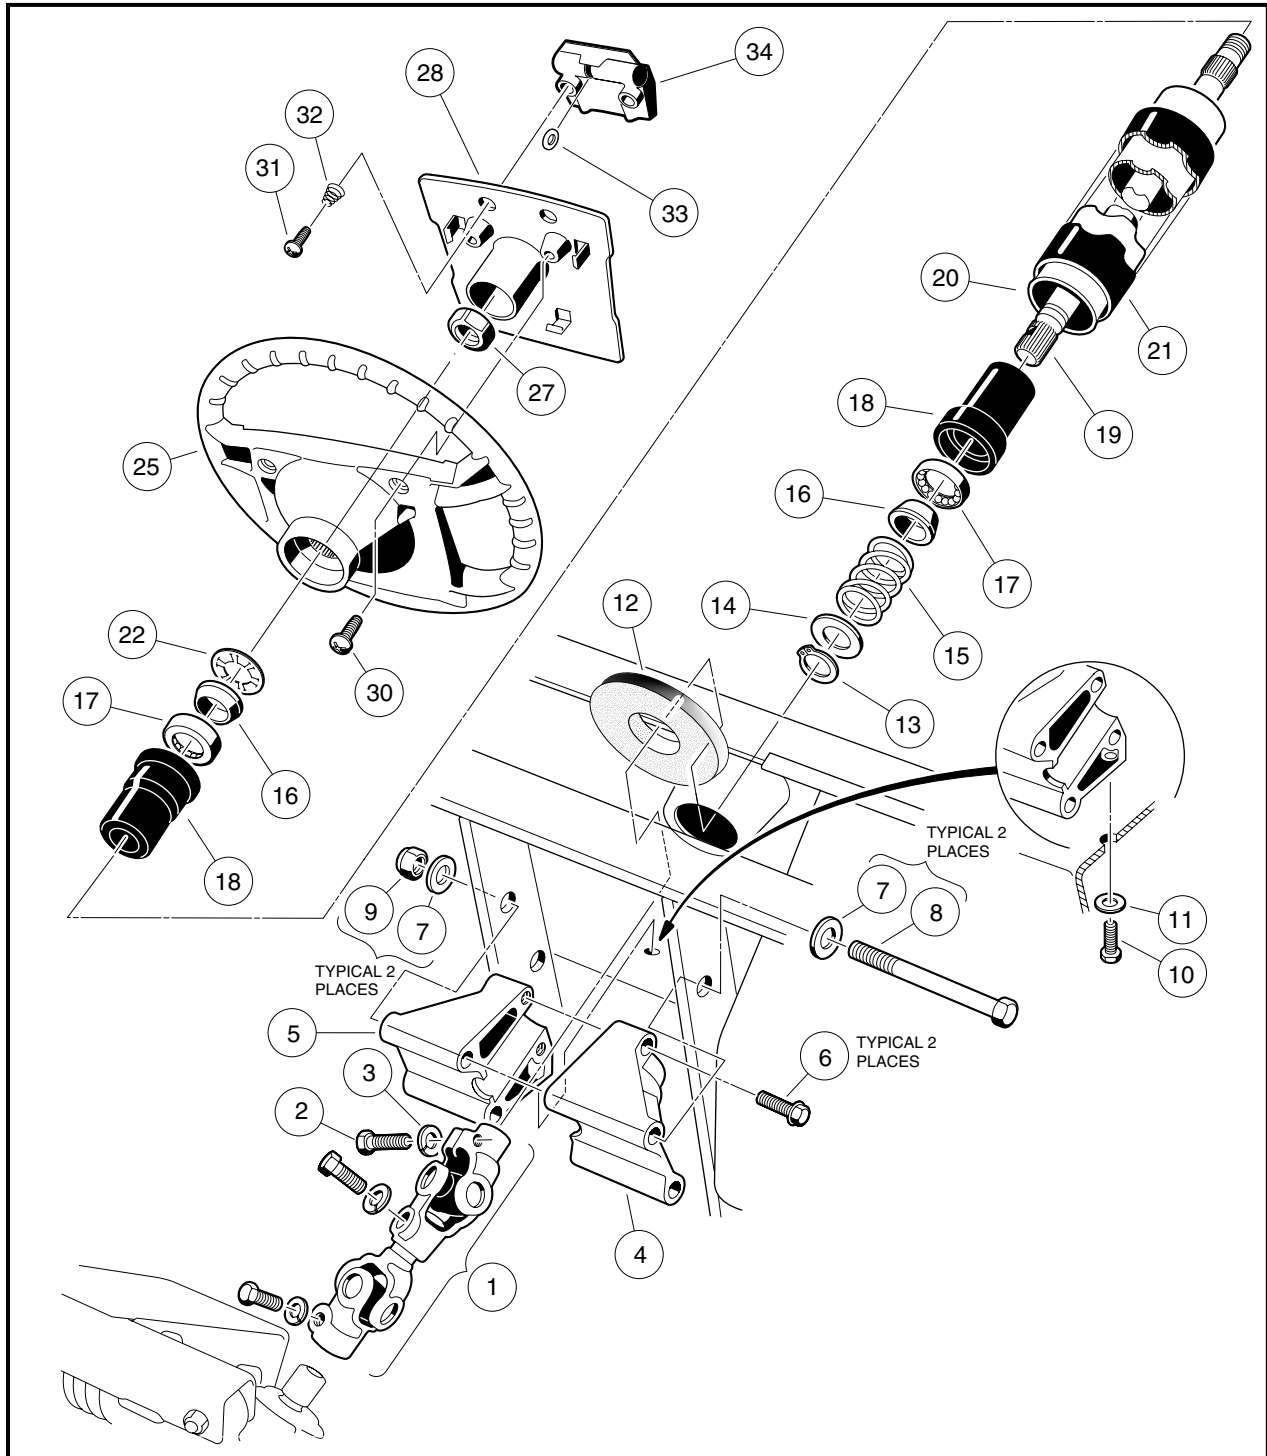

Figure 7-4 Steering Column
2. Remove the two mounting screws (30) and plate (28) (**Figure 7-4, Page 7-5**).
3. Match mark the steering wheel (25) and steering column shaft (19) so when the steering wheel is removed it can be placed back in exactly the same position on steering column shaft (**Figure 7-4, Page 7-5**).
4. Loosen the steering wheel nut (27) and back it off approximately 1/4 inch (6 mm). Do not remove the nut (**Figure 7-4, Page 7-5**).
- 5.6. Remove the steering wheel nut (27) and the steering wheel (25) from the steering column (20) (**Figure 7-4, Page 7-5**).
1. Install the steering wheel (25) on the splines of the steering shaft (19). Be sure to align the match marks placed on the wheel and steering column in step 3 above (**Figure 7-4, Page 7-5**).
2. Install the steering wheel nut (27) and tighten to 13 ft-lb (17.6 N·m).
3. Install the steering wheel plate (28) and plate mounting screws (30) (**Figure 7-4, Page 7-5**). Tighten screws to 16 in-lb (1.8 N·m).
5. Remove the upper bolt (2) and lock washer (3) from the universal joint (**Figure 7-4, Page 7-5**).
6. Remove the nuts (9), bolts (8 and 10), and washers (7 and 11) from the steering column mount (4 and 5) (**Figure 7-4, Page 7-5**).
1. Remove bolts (6) and mounts (4 and 5) from steering column. Remove boot (12) (**Figure 7-4, Page 7-5**).
2. While supporting steering column (20) on a workbench, remove snap ring (13) from shaft.
3. Remove the washer (14), spring (15), and wedge (16).
4. Turn the steering column over and slide the shaft out of the tube to expose the retaining ring (22). Use pliers to twist the retaining ring (22) until it breaks off, then remove the wedge (16).
5. Remove the shaft (19) from the bottom of the tube (20).
6. Use steering shaft (19) to push bearing seat (18) out from the opposite end of the steering tube (20).
7. Insert a flat blade screwdriver between the bottom of the outer race of the bearing (17) and the bottom lip of the bearing seat (18) and remove the bearing (17).
4. Insert the shaft (19) from the bottom of the steering tube (20) (**Figure 7-4, Page 7-5**).
1. Install boot (12). Reinstall mount (4 and 5) onto the end of the steering column. Tighten bolts (6) to 20 ft-lb (27 N·m) (**Figure 7-4, Page 7-5**).
- Position the steering column assembly in the vehicle while inserting the steering column shaft into the upper universal joint (1). The flat portion of the steering shaft spline (19) must be aligned with the bolt hole in the universal joint (1) before sliding the spline into the universal joint. While holding the steering column in place, attach it to the frame using bolts (8), washers (7), and nuts (9) (**Figure 7-4, Page 7-5**). Thread the nuts onto the bolts but do not tighten them.
- Install washer (11) and screw (10). Tighten to 20 ft-lb (27 N·m) (**Figure 7-4, Page 7-5**).
- Install the bolt (2) and lock washer (3) on the upper universal joint and finger-tighten.
- Tighten the two nuts (9) and bolts (8) to 18 ft-lb (24.4 N·m) (**Figure 7-4, Page 7-5**).
- Tighten the bolt (2) on the upper universal joint to 15 ft-lb (20 N·m) (**Figure 7-4, Page 7-5**).
- Check the other two bolts of the universal joint (1) to ensure that they are properly tightened to 15 ft-lb (20 N·m) (**Figure 7-4, Page 7-5**).
5. Remove the bolt (2) and flat washer (3) on the upper universal joint, then remove the rack assembly and universal joint from the vehicle (**Figure 7-4, Page 7-5**).